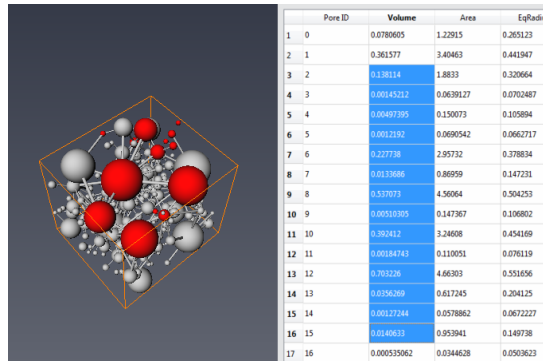

Figure 20.17: Highlighted Pores
- When displaying the PNM with a *Pore Network Model View* and displaying the spreadsheet at the same time in the table view, it is possible to highlight the pores or the throats that are selected in the table from the Pores table or the Throats table. Select pores in the table by left-clicking on one or several lines (i.e., left click + hold on a line and move up or down the table without releasing). The corresponding pores will be highlighted in red in the 3D view (see Figure 20.17).